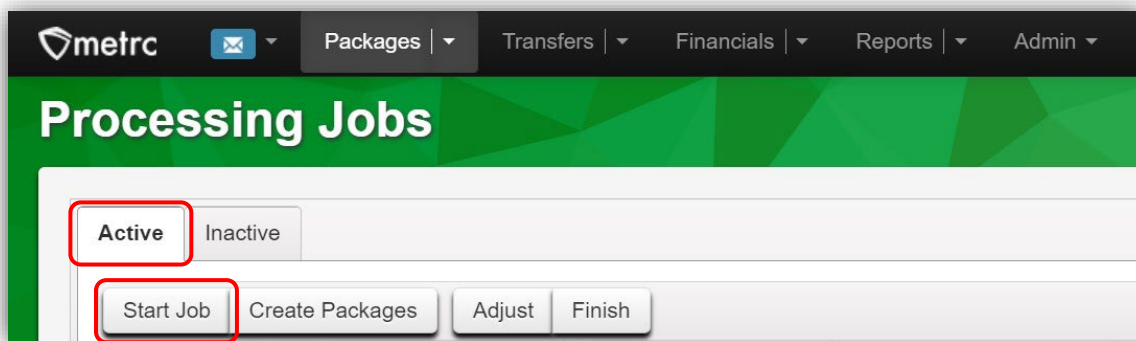

Figure 9: Start a processing job
- This will open the Processing Jobs grid. Select the Active tab, then click the Start Job button to access the Start Processing Job action window – **see Figure 9.**